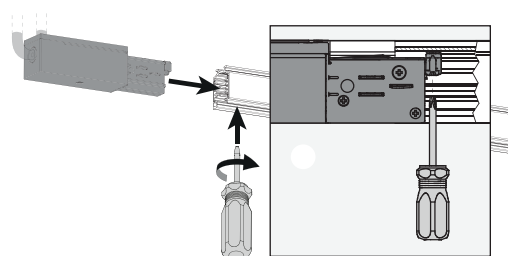

Figure 5
5. Attach cover and then plug the Smart Track Live End Feed into the Track. Using a screwdriver, screw in the live end feed to the track. **Figure 5**